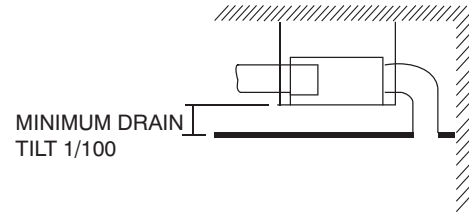

Fig. 13 — False Ceiling Installation
- There should be enough room within the false ceiling for installation and maintenance (see Fig. 13).